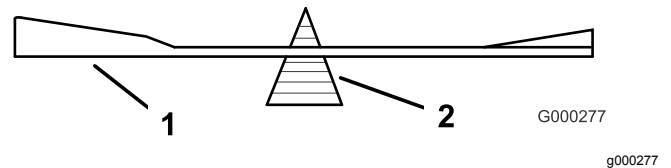

Figure 96
2. Check the balance of the blade by putting it on a blade balancer (Figure 96). If the blade stays in a horizontal position, the blade is balanced. If the blade is not balanced, file some metal off the end of the sail area only (Figure 97). Repeat this procedure until the blade is balanced.